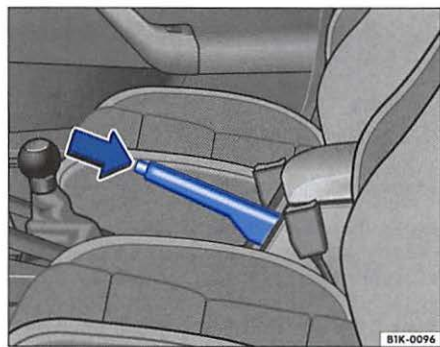

Fig. 89 Parking brake between front seats
- Pull the parking brake lever up firmly ⇒ fig. 89.
- Pull the lever up slightly and press the locking knob in the direction of the arrow ⇒ fig. 89 and guide the parking brake lever down fully ⇒ .